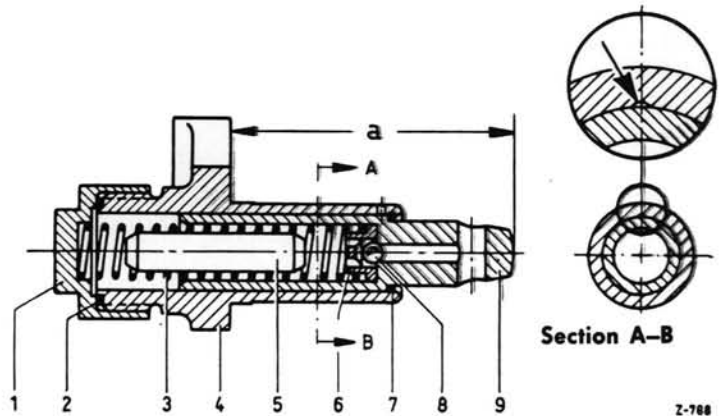

Fig. 05-6/1
Faulty chain tensioners are best replaced completely. To the extent, spare parts are available, the pressure bolt (9) and the housing (4) cannot be exchanged individually, since both parts must be selected accurately fitting to each other. Fig. 05-6/1.
- a) Unscrew closing nut (1), making sure that the compression spring (3) presses on closing nut. Refer to Fig. 05-6/1.
- b) Remove compression spring (3), pin (5), ball cage (6), ball (8) and thrust bolt (9) from housing.
- d) Insert thrust bolt (9) into housing (4). Insert ball (8) with ball cage (6), pin (5) and compression spring (3) into pressure bolt (9). Screw on closing nut (1) with sealing ring (2) and tighten.